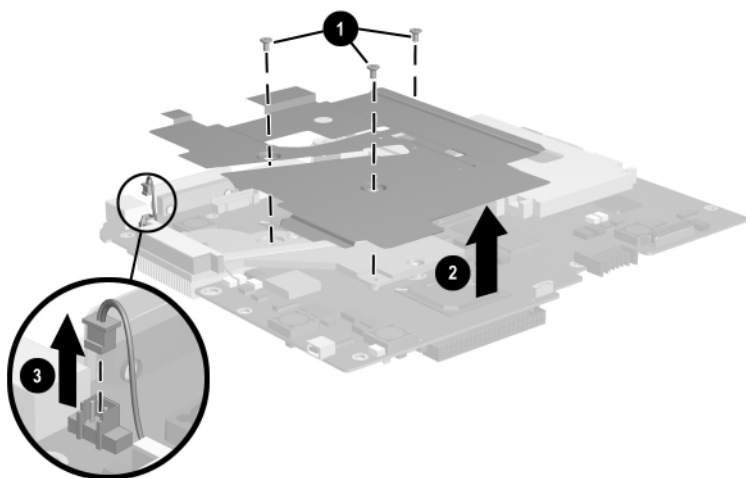

Figure 5-26. Removing the EMI Shield
4. Remove the three PM2.0 \times 3.5 screws ❶ that secure the EMI shield to the base enclosure (Figure 5-26).
5. Remove the shield ❷.
6. Disconnect the fan cable ❸ from the system board.